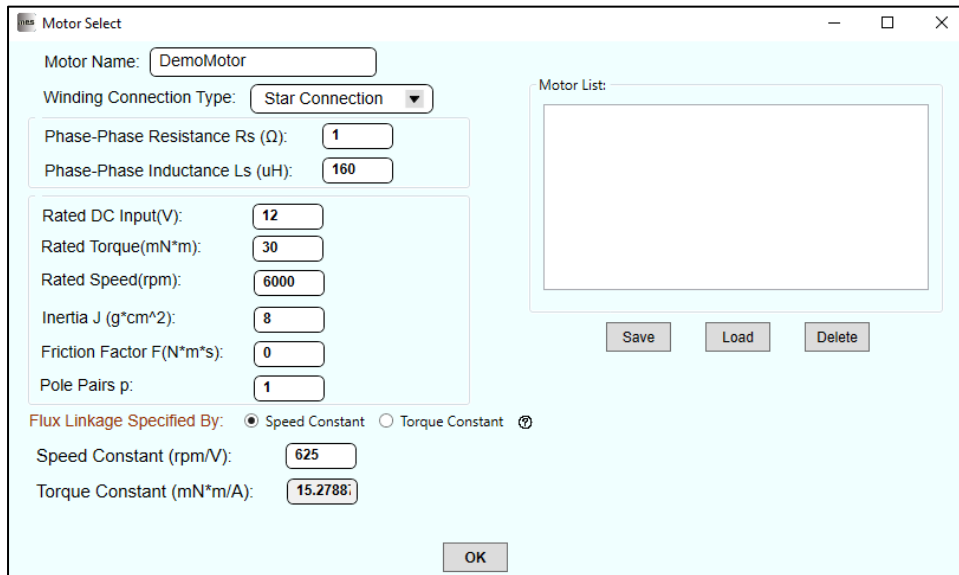

Figure 9: Change the Motor Parameters
3. Click the motor picture and change the motor parameters according to the motor datasheet (see Figure 9).